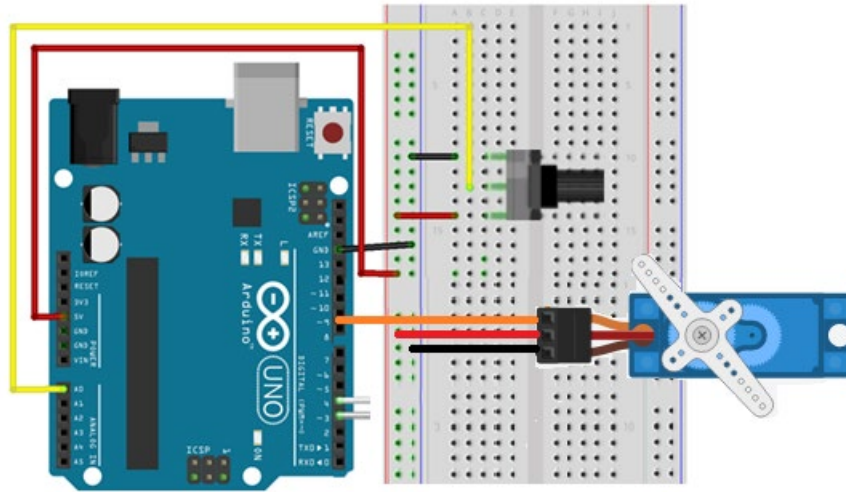

Figure 1. A Servo and a potentiometer connected to Atmega328P
- Construct a circuit, as shown in Fig. 1, connecting a servo motor (SG90) to PB1 (or UNO pin-9) and a potentiometer to an analog input. Note that the middle pin of the servo is 5V power, and the orange-colour cable is the PWM signal connected to PB1.